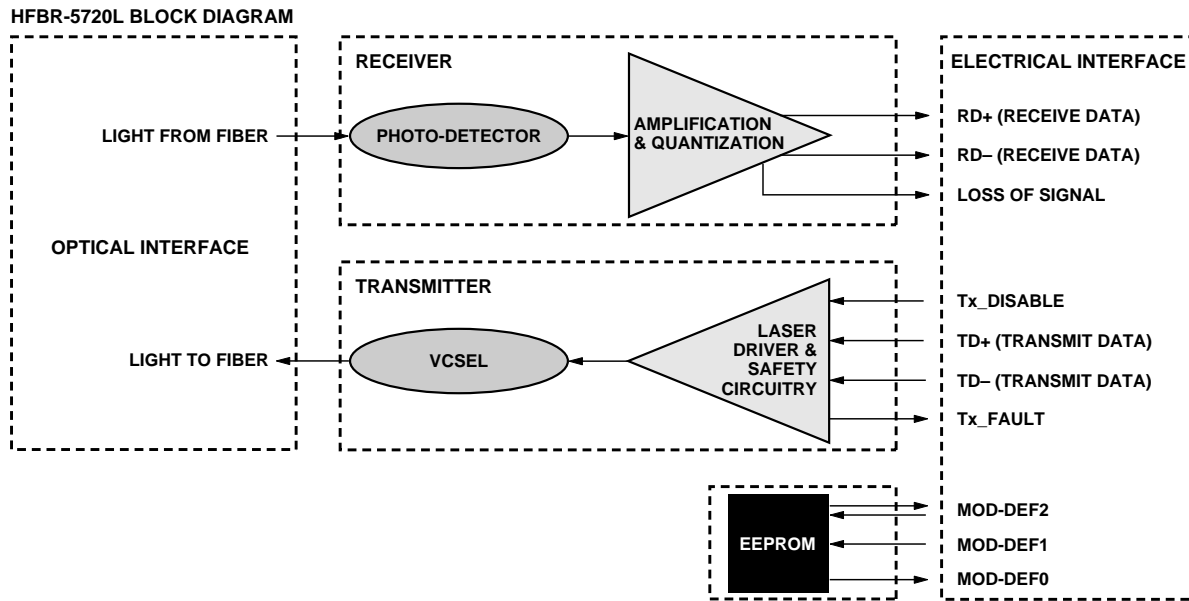
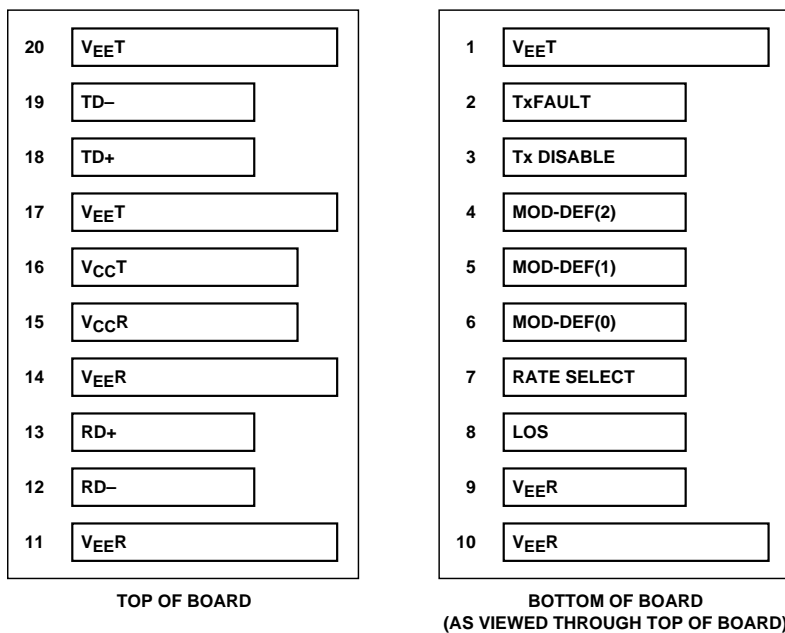

Figure 1. Transceiver functional diagram.
Figure 2. Connection diagram of module printed circuit board.
Figure 1 illustrates the major functional components of the HFBR-5720L. The connection diagram of the module is shown in Figure 2. Figure 7 depicts the external configuration and dimensions of the module.
contact sequencing involves (1) Ground, (2) Power, and then (3) Signal pins, making contact with the host board surface mount connector in that order. This printed circuit board card-edge connector is depicted in Figure 2.
Agilent’s HFBR-5720L fiber-optic transceiver is designed to accept industry standard differential signals. In order to reduce the number of passive components required on the customer’s board, Agilent has included the functionality of the transmitter bias resistors and coupling capacitors within the fiber optic module. The transceiver is compatible with an “AC-coupled” configuration and is internally terminated. Figure 1 depicts the functional diagram of the HFBR-5720L.